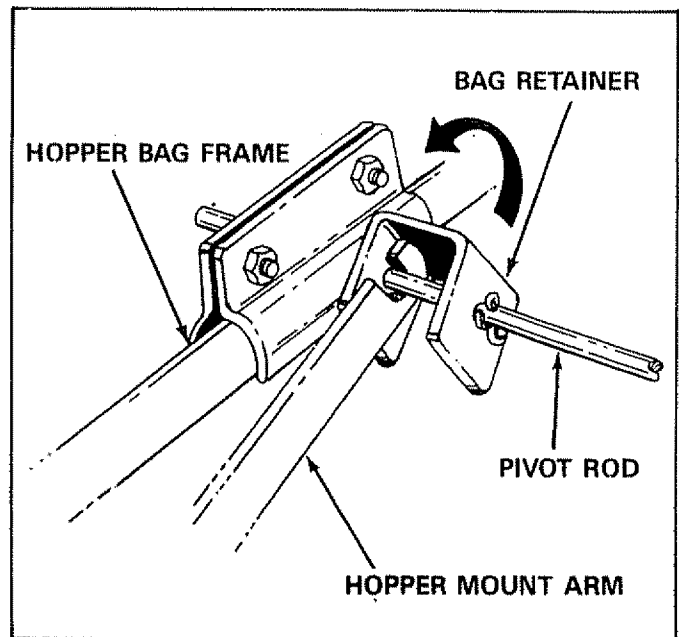

FIGURE 25
- To assemble the hopper bag frame to the sweeper, simply hook the pivot rod into the notches in mounting arms. Bag retainers must pivot freely to lock in position. See figure 25.
- To remove the hopper bag frame from the sweeper, simply lift up on the bag retainers and lift off hopper bag. See figure 25